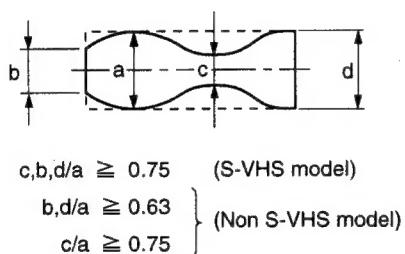

Fig. 2-7-7
- Make sure the video envelope waveform (in its maximum output) meets the specification shown in Fig. 2-7-7. Again make sure the same by playing back the SP mode 3 MHz video signal on the alignment tape. If not satisfied, adjust as follows:
- Make recordings and playback the tapes E-180 and E-240 in SP and LP modes and make sure the playback output envelope meets the specifications shown in Fig. 2-7-7.